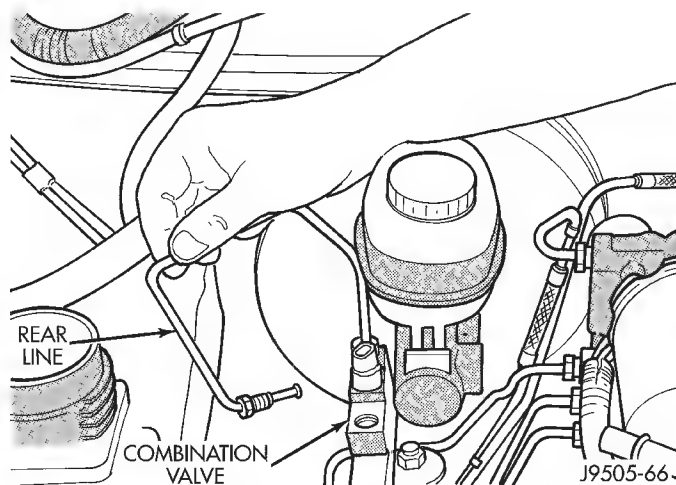

Fig. 13 Disconnecting Master Cylinder Rear Brakeline
(11) Disconnect master cylinder rear brakeline at cylinder. Then loosen line at combination valve and swing line around to opposite side of cylinder (Fig. 13).